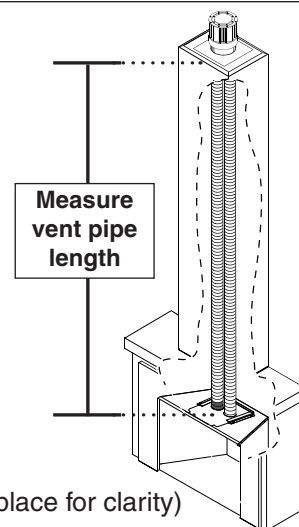

Fig. 25-1 Prepare fireplace & measure pipe length
3. Measure from the top of the chimney down to the location that the top of the insert / vent adapter will rest when installed (see Fig. 25-1).